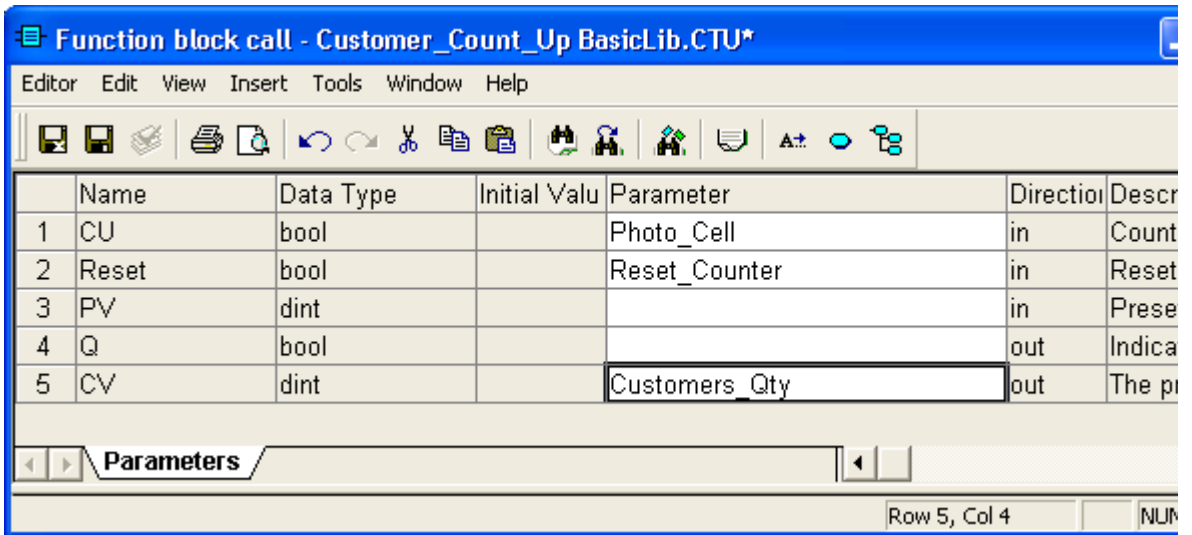

Figure 33. Connecting CTU function block parameters.
- Fill in the other two variables in the parameter list according to Figure 33, thus leave out the connection of the two parameters PV and Q.